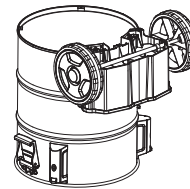

Fig. 3
- Install the axle (J) through the storage and rear wheels (A). Then attach with the washers (I) on each side the wheel (A), put the pin (I) through the hole and bend it at the end of the axle (J) to fix the wheels (A). (Fig. 3)